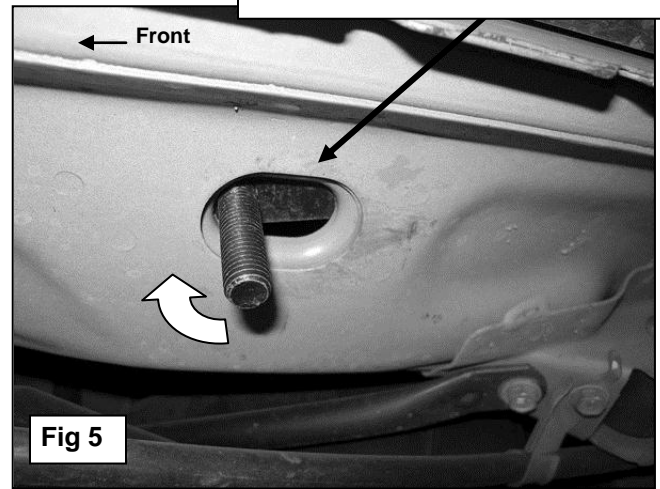

Fig 5
- Moving to the rear of the vehicle, insert (1) 12mm x 50mm Bolt Plate into factory oval hole in the floor panel, **(Figure 5)**. Rotate the Bolt Plate 90-degrees or until it stops spinning to properly support both sides of the flat surface on the Bolt Plate.